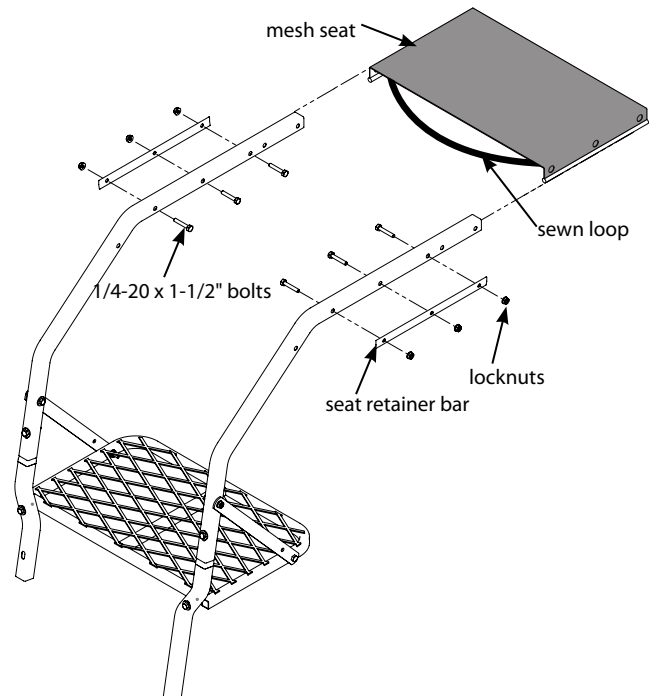
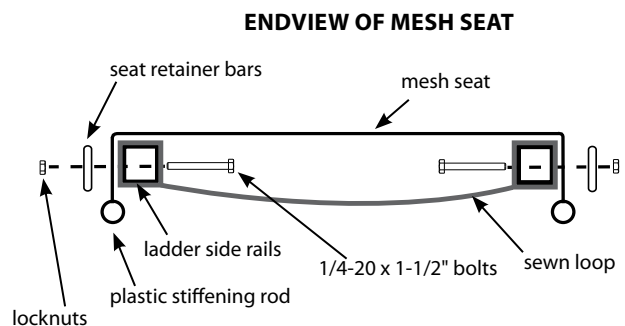

Figure 2
Figure 3
4. Slide the sewn loop of the seat (360003) over the ladder side rails. Attach the seat and the (2) seat retainer bars (410072) to the ladder side rails using (6) provided 1/4-20 x 1-1/2" bolts and locknuts. **SEE FIGURE 2.** The plastic stiffening rod located in the sewn sleeve on each side of the seat MUST be positioned below the seat retainer bar to act as a seat stop and prevent the seat from pulling out during use. All bolts MUST go through the seat retainer bars, the holes provided in the seat and the ladder side rails. **SEE FIGURE 3.**